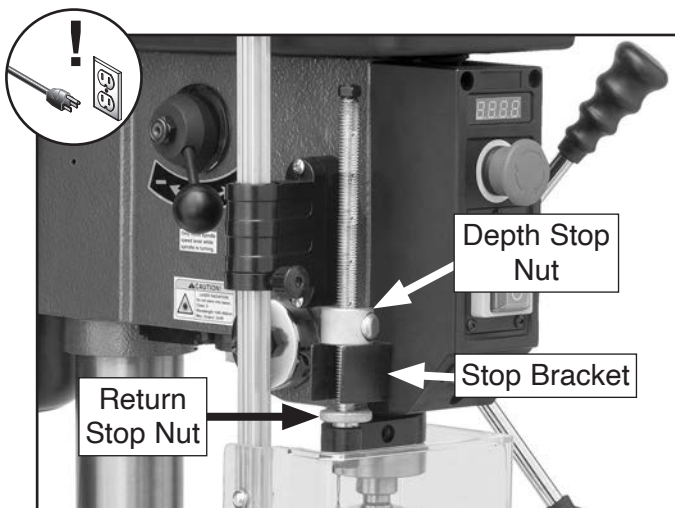

Figure 66. Return stop and depth stop nuts adjusted all the way down.
2. Adjust return stop nut all the way down so quill is fully seated in headstock (see **Figure 66**).
3. Adjust depth stop nut all the way down so it sits against stop bracket (see **Figure 66**).